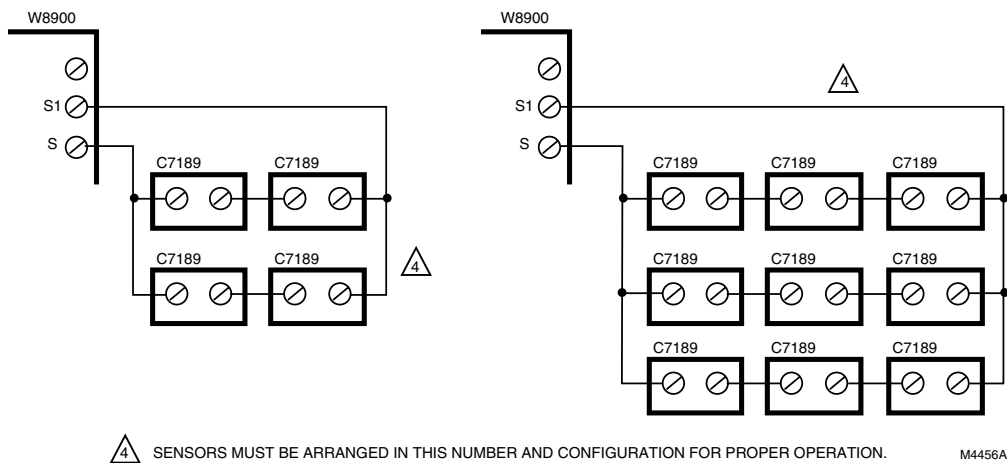

Fig. 26. Wiring diagram for C7189A Remote Sensor to W8900A-C Remote Module.
1. Wire the C7189A Remote Indoor Sensor to the W8900A-C Remote Module terminals S1 and S. For an example of general wiring of the C7189A, see Fig. 26.